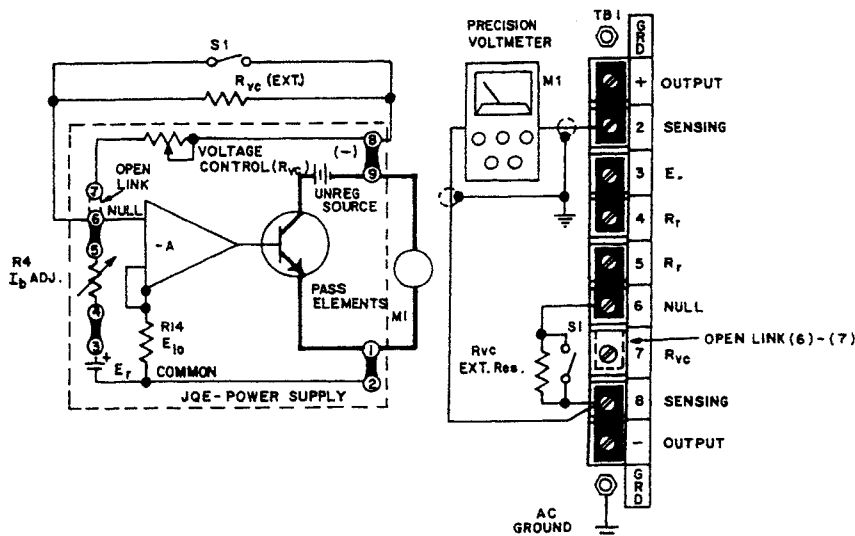

FIG. 3-5 CONNECTIONS FOR PRECISION PROGRAMMING RATIO ADJUSTMENT
3-16 PROCEDURE, PRECISION PROGRAMMING RATIO ADJUSTMENT (Refer to FIG. 3-5).
- b) Connect calibration set-up as shown in FIG. 3-5 and connect the JQE power supply to the a-c power line.